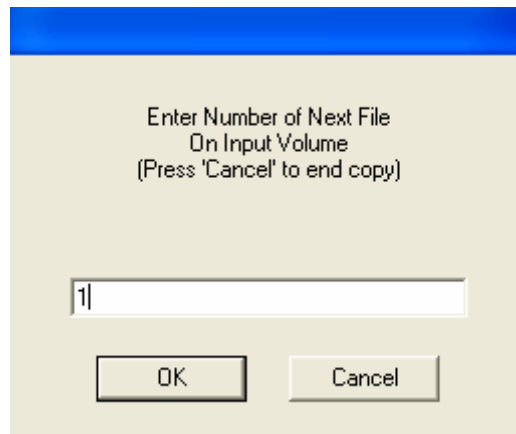

Figure 26: File Number Prompt
4. If the current file copying mode, as described in Section 20.1 (Job Preferences), is set to prompt for file numbers the user will be prompted for the number of the input file to copy (relative to the beginning of the current volume). This pop-up window will reappear before each file is copied. The prompt is shown in Figure 26: File Number Prompt.